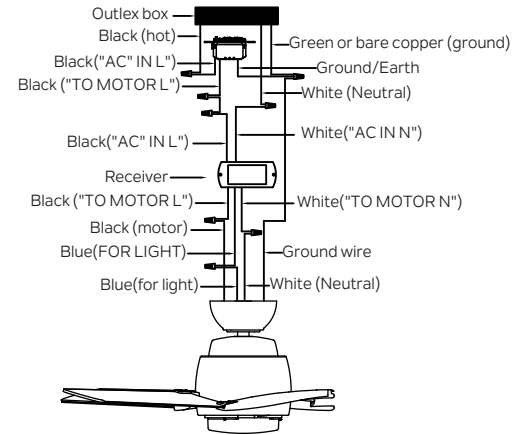

Fig. 14
Step 2. Motor to Receiver Electrical Connections: Connect the BLACK wire from the fan to BLACK wire marked "TO MOTOR L" from the receiver. Connect the WHITE wire from the fan to the WHITE wire marked "TO MOTOR N" from the receiver. Connect the BLUE wire from the fan to the BLUE wire marked "FOR LIGHT " from the receiver. Secure all the wire connections with the plastic wire connectors provided. (Fig. 14)
Step 3. Remote Receiver to Outlet Box Electrical Connections: Connect the BLACK (hot) wire from the ceiling to the BLACK wire marked "AC in L" from the wall control . Connect the WHITE (Neutral) wire from the ceiling to the WHITE wire marked " AC in N" from the receiver. Connect the BLACK (To Motor L) wire from the wall control to the BLACK wire marked " AC in L" from the receiver. Secure the wire connections with the plastic wire connectors provided. (Fig. 14)
Step 4. If your outlet box has a ground wire (green or bare copper) connect it to the fan ground wires : otherwise connect the fan ground wire to the mounting bracket. Secure the wire connection with a plastic nut provided. After connecting the wires, spread them apart so that the green and white wires are on one side of the outlet box and black and blue wires are on the other side. (Fig. 14)